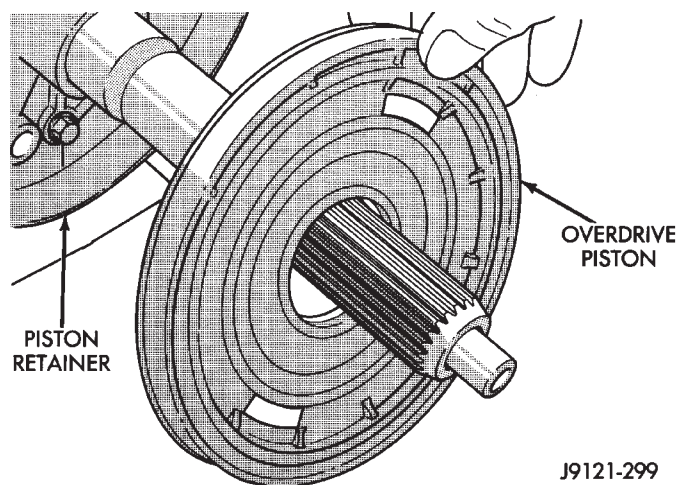

Fig. 7 Overdrive Piston Removal
- (3) Remove overdrive piston from retainer (Fig. 7).